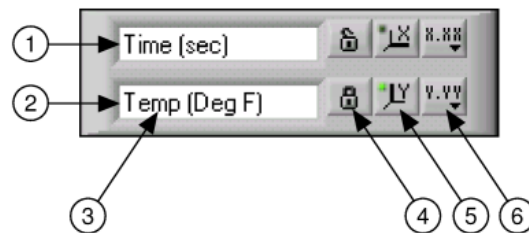

Figure 7.13: 1. X-axis, 2. Y-axis, 3. Scale Labels, 4. Scale Lock Button, 5. Autoscale Button, 6. Scale Format Button
2. Right-click the waveform chart and select Visible Items>>Scale Legend from the shortcut menu to display the scale legend, as shown in Figure 7.13. You can place the scale legend anywhere on the front panel.